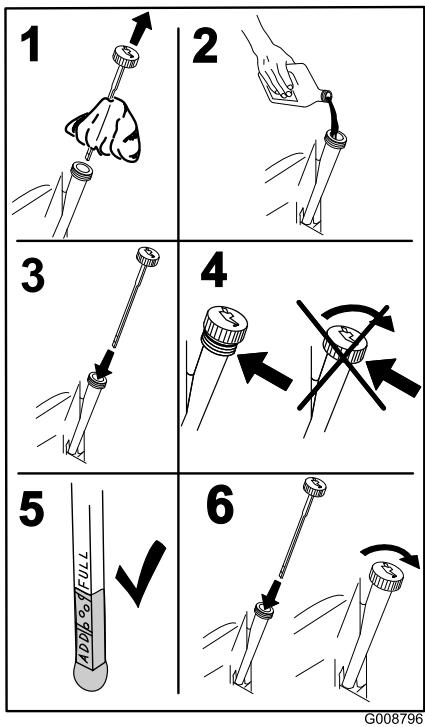

Figure 49
- Slowly pour approximately 80% of the specified oil into the filler tube and slowly add the additional oil to bring it to the **Full** mark (Figure 49).